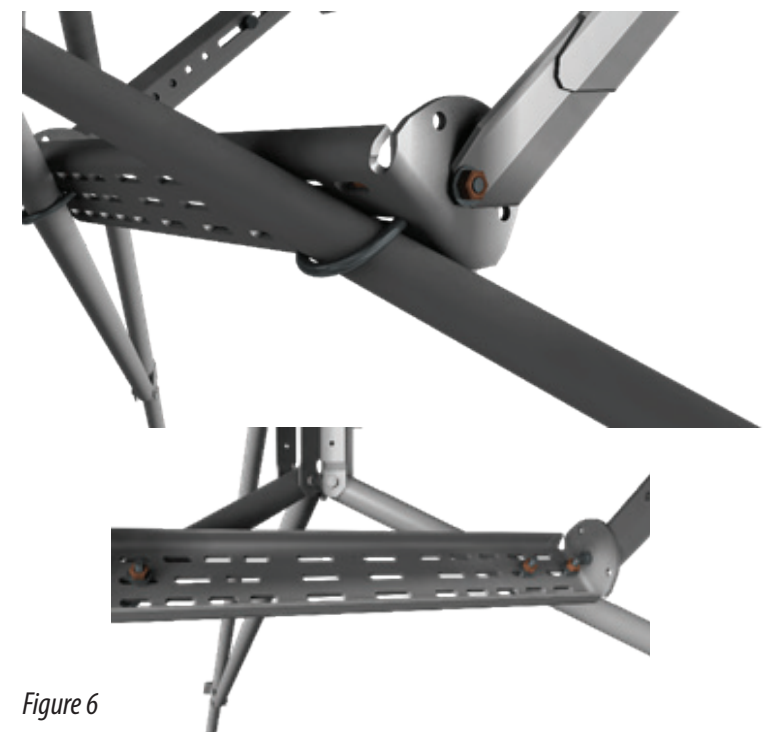

Figure 6
7. Place the lower bracket against the tripod leg braces as shown (Figure 6). Use U-bolts, washers, lock washers, and nuts from the hardware bag labeled 'Tripod' to mount the bracket on the tripod legs. Finger-tighten the nuts. Skip to Angle Adjustment on Tripod Mounts.